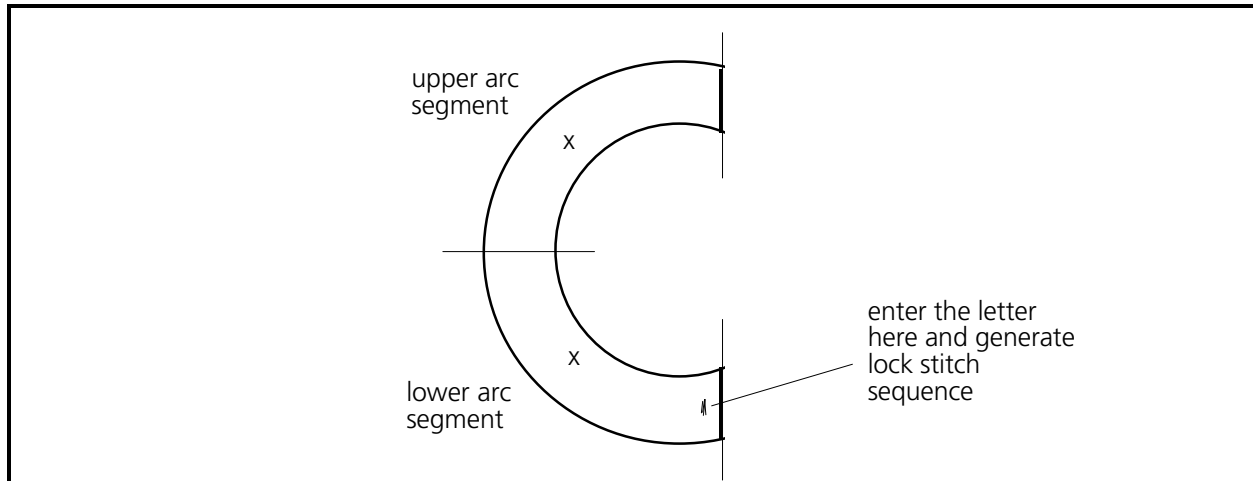

Figure 3-23
The curvature of the letter **c** is more than 180 degrees, therefore we must break the digitizing into 2 separate arcs. Also, notice that the letter is not exactly circular, but is slightly oval (see Figure 3-23).
Make the upper half one arc; and the lower half a second arc. To plot the letter **c** for the first method of digitizing a column on an arc, refer to Figure 3-23 and with a pencil, mark the indications like the illustration.
1. Ensure the lock stitches were generated at the end of the letter **I**; and then the perform the needle up, Mk1, normal stitch, Mk1 sequence to get to the bottom right area of the letter **c** (see Figure 3-23).